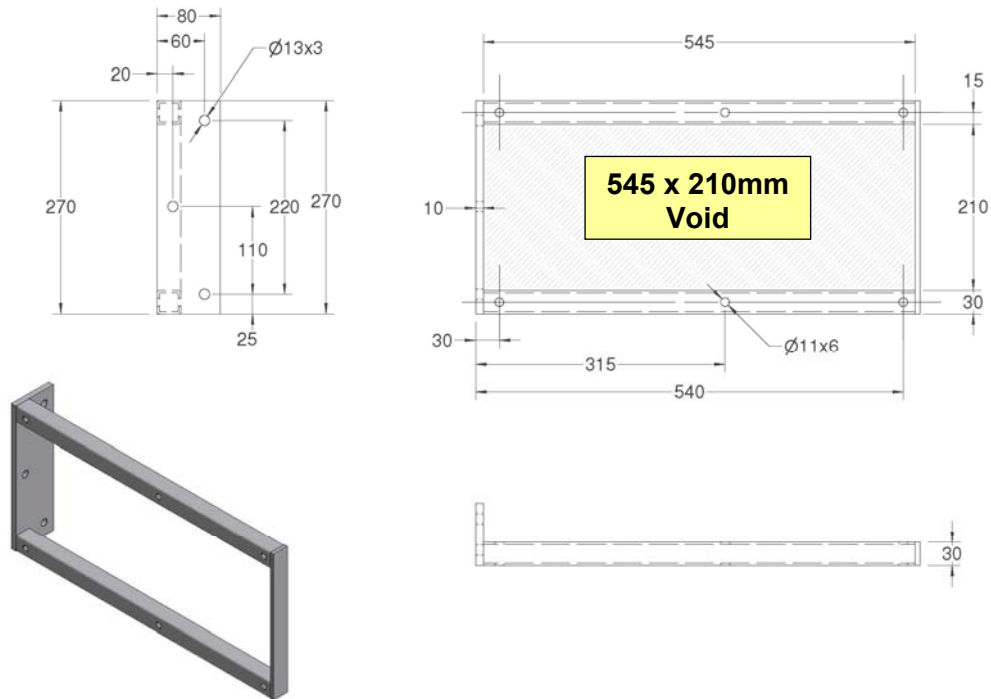

Figure 8a: Electric Drive Mounting Bracket
9. Suggested design of the customer supplied brackets using steel profiles is shown in Figure 8a and 8b. If alternatives are used (larger box profile, or angle) ensure the central section indicated is clear of obstructions.